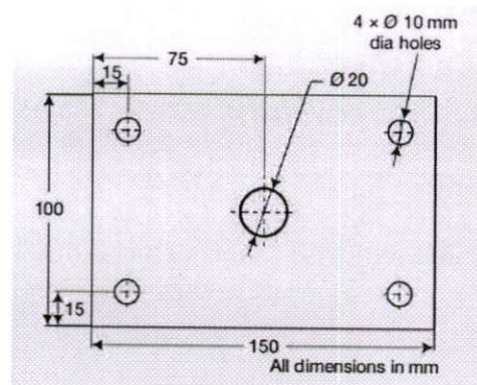

Figure 1
- 7 The component to be machined is shown in figure 1. Write a part program manually to drill all the holes. What are the advantages that can be obtained if canned cycle approach is used? 10M C03 BL3